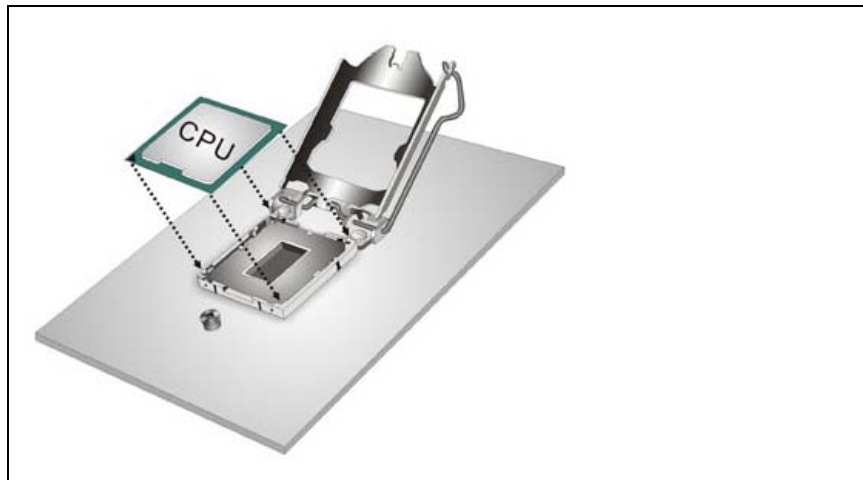

Figure 4-3: Insert the Socket LGA1155 CPU
- Step 7:** Insert the CPU. Gently insert the CPU into the socket. If the CPU pins are properly aligned, the CPU should slide into the CPU socket smoothly. See **Figure 4-3**.